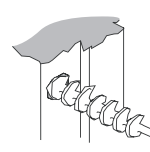

Figure 4b
- Drill 0.47" (12mm) deep in door jamb on center mark (Figure 4b).